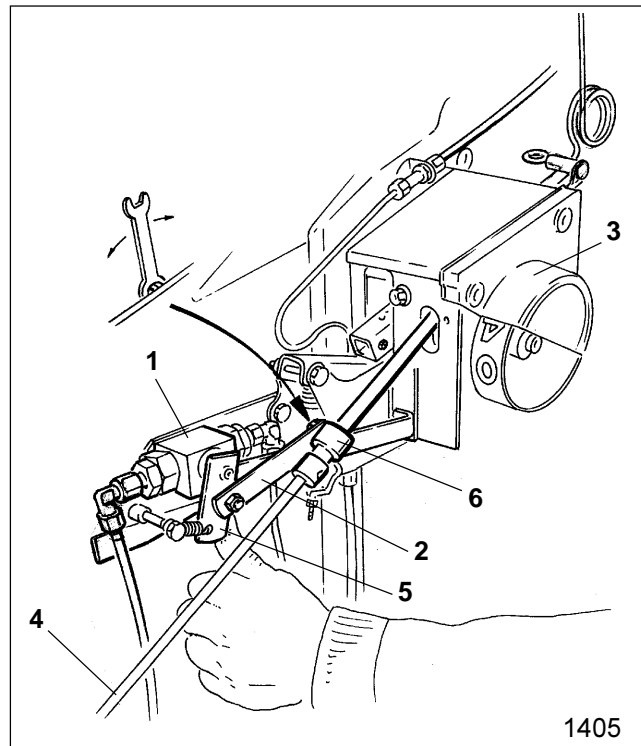

Fig. 19.5
The hydraulic ram of the tramline marker unit is controlled by a control valve (Fig. 19.5/1). The control valve (Fig. 19.5/1) is connected to the switch box of the tramlining control unit by a conrod (Fig. 19.5/2).
When supplied the control valve (Fig. 19.5/1) has been set by the factory so that it faultlessly switches.:
- In position "0" of the switch box (Fig. 19.5/3)
- the switching conrod (Fig. 19.5/4) is pulled,
- the lever (Fig. 19.5/5) of the control valve is advanced by one bout,
- the lever (Fig. 19.5/5) of the control valve switches back,
- set switch box (Fig. 19.5/3) to switching position "1",
- slacken the setting ring (19.5.6), press the lever (Fig. 19.5/5) of the control valve by hand completely to the rear and firmly tighten the setting ring again.